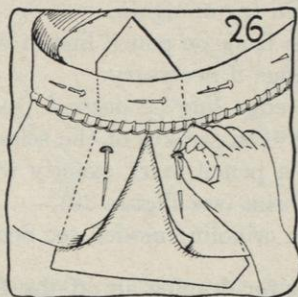

FIG. 26.
- m. Insert a crinoline piece wider at the edge than at the headsize (a gusset) if you want the mushroom to flare more (see Figure 26).
- (1) Make headsize band tighter or looser, if necessary.